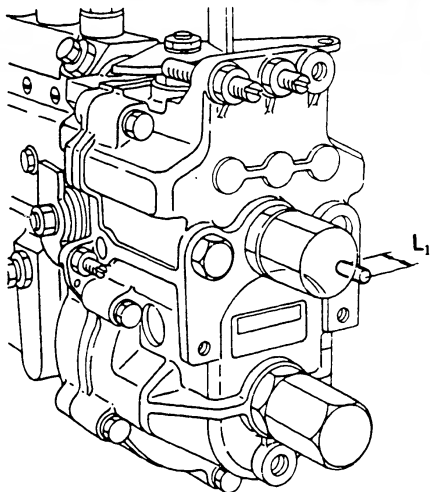

Fig. 172 Pushrod protrusion
- 2) In this condition, use calipers to measure the protrusion (dimension L_1) of pushrod (2) from the end face of the governor cover when the specified control rack position is obtained. (Fig. 172)